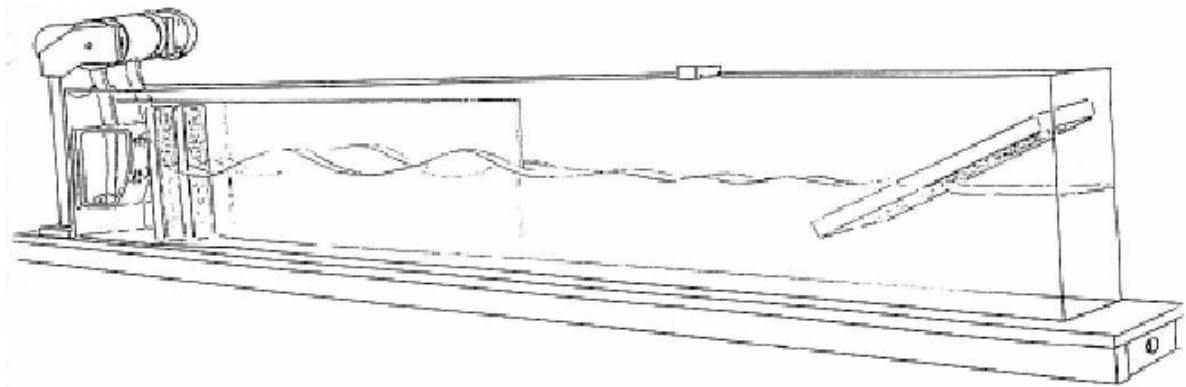

Fig. 1 Experimental set-up of the wave channel
- Fill up the water wave channel to the marked height with water (Fig. 1).
Where the separator is situated, the out of phase situation of the two partial waves is clearly visible. In the I-shaped part of the channel which is not separated by the plate, the two partial waves meet and cancel each other out (Fig. 1).